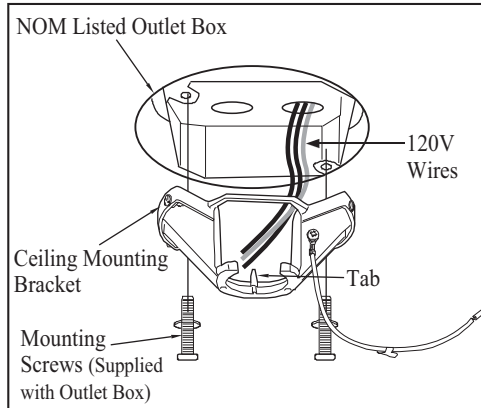

Figure 11
1. Pass the 120-volt supply wires through the center hole in the ceiling mounting bracket as shown in Figure 11.
2. Install the ceiling mounting bracket on the outlet box with the screws and washers provided with your outlet box. (Figure 11) When using “Close-to-Ceiling Mounting”, it is important that the mounting bracket be level. If necessary, use leveling washers (not included) between the mounting bracket and the outlet box. Note that the flat side of the mounting bracket is toward the outlet box. (Figure 11)